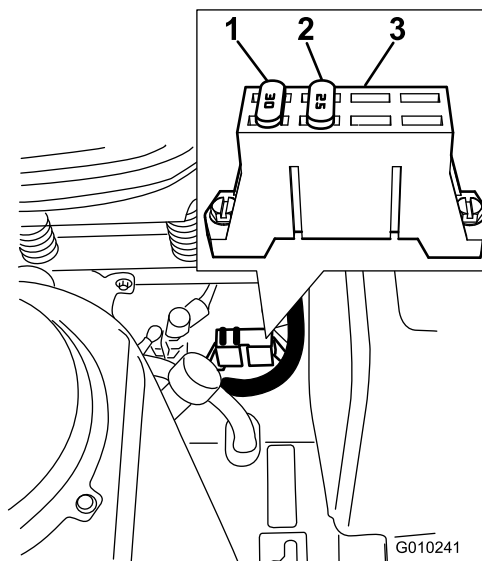

Figure 46
1. The fuses are located on right hand console next to the seat (Figure 46).
3. Install a new fuse (Figure 46).